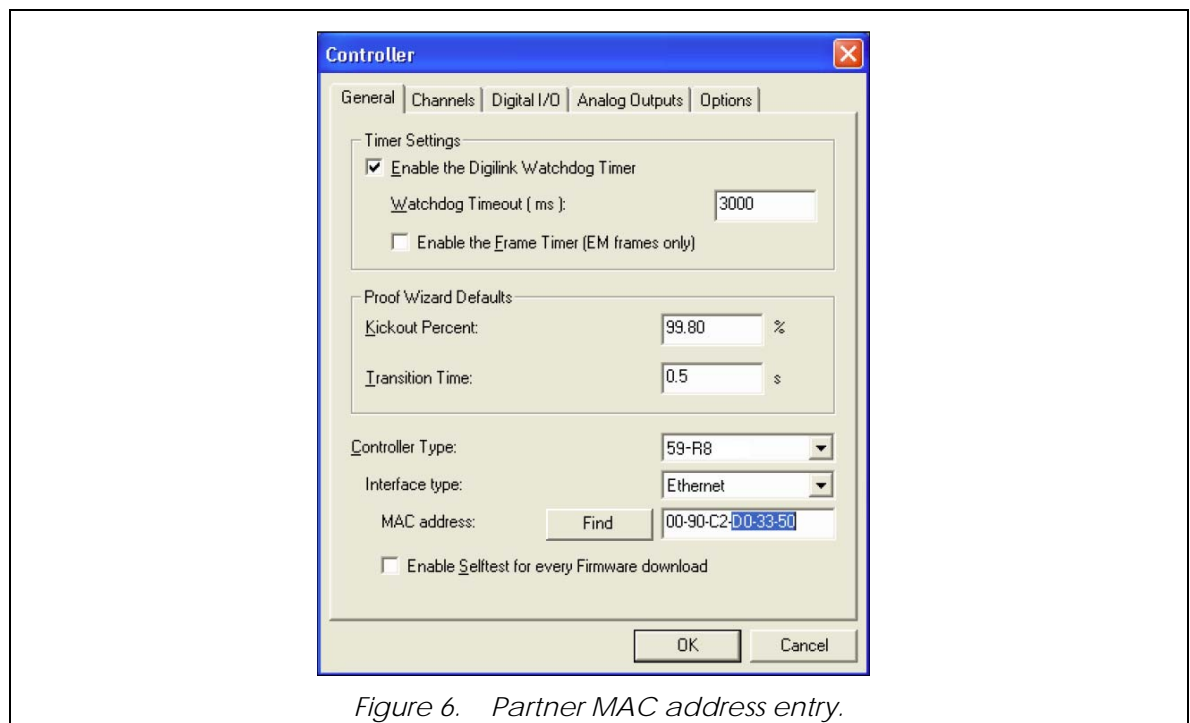

Figure 6. Partner MAC address entry.
- vii. In addition to an IP address, the EFI uses a unique MAC address. Click the Find button next to the MAC address field; the software will search for the device, get the MAC address and populate the field. Alternately, you can enter the MAC address manually. The MAC address can be found on the label affixed to the front of the 59-Series control unit (usually below the Ethernet connection). The MAC address is case sensitive. The first six digits (00-90-C2) indicate that the EFI is an Instron device. The last six digits are unique to that EFI to ensure that Partner only communicates with that specific EFI (Figure 6).